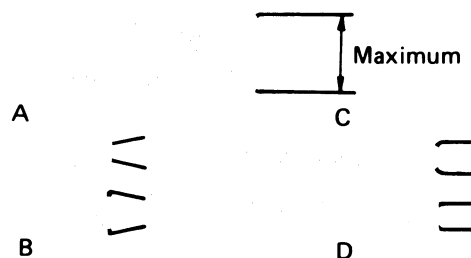
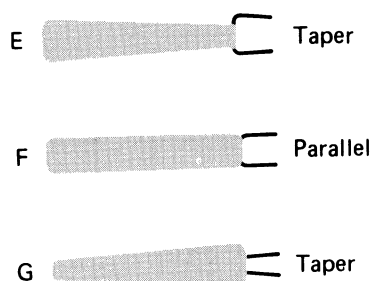

Fig. 22 Minimum FM output (incorrect examples)
Fig. 23 Minimum FM output (correct examples)
2. If the waveform becomes as shown by A or B of Fig. 22, carefully adjust the supply guide roller height so that the waveform becomes as shown by E, F or G of Fig. 23. At this time, if the waveform fluctuates, adjust to the point of minimum fluctuation.
3. If the FM waveform appears as shown by C or D in Fig. 22, carefully adjust the take-up guide roller height to obtain a waveform such as shown by E, F or G of Fig. 23.
Perform fine adjustment of supply and take-up guide rollers so that waveform variation becomes as shown by E, F or G of Fig. 23.